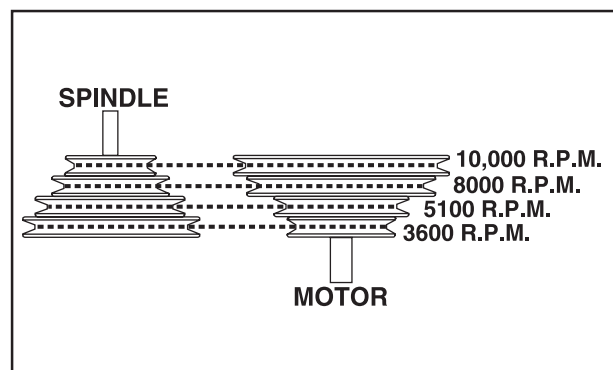

Figure 24. Spindle speed adjustment.
3. Select the desired speed. There are four speeds: 3600 RPM, 5100 RPM, 8000 RPM, 10,000 RPM. **Figure 24** shows the belt positions for each available speed.